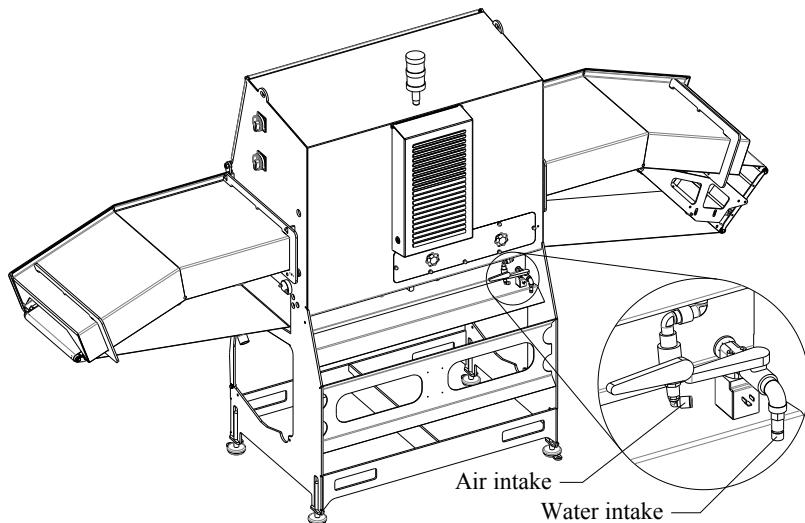

Figure 10 Air and water intake.
- 7 Connect electrical, air, and water supplies (see Figure 10 Figure 10)